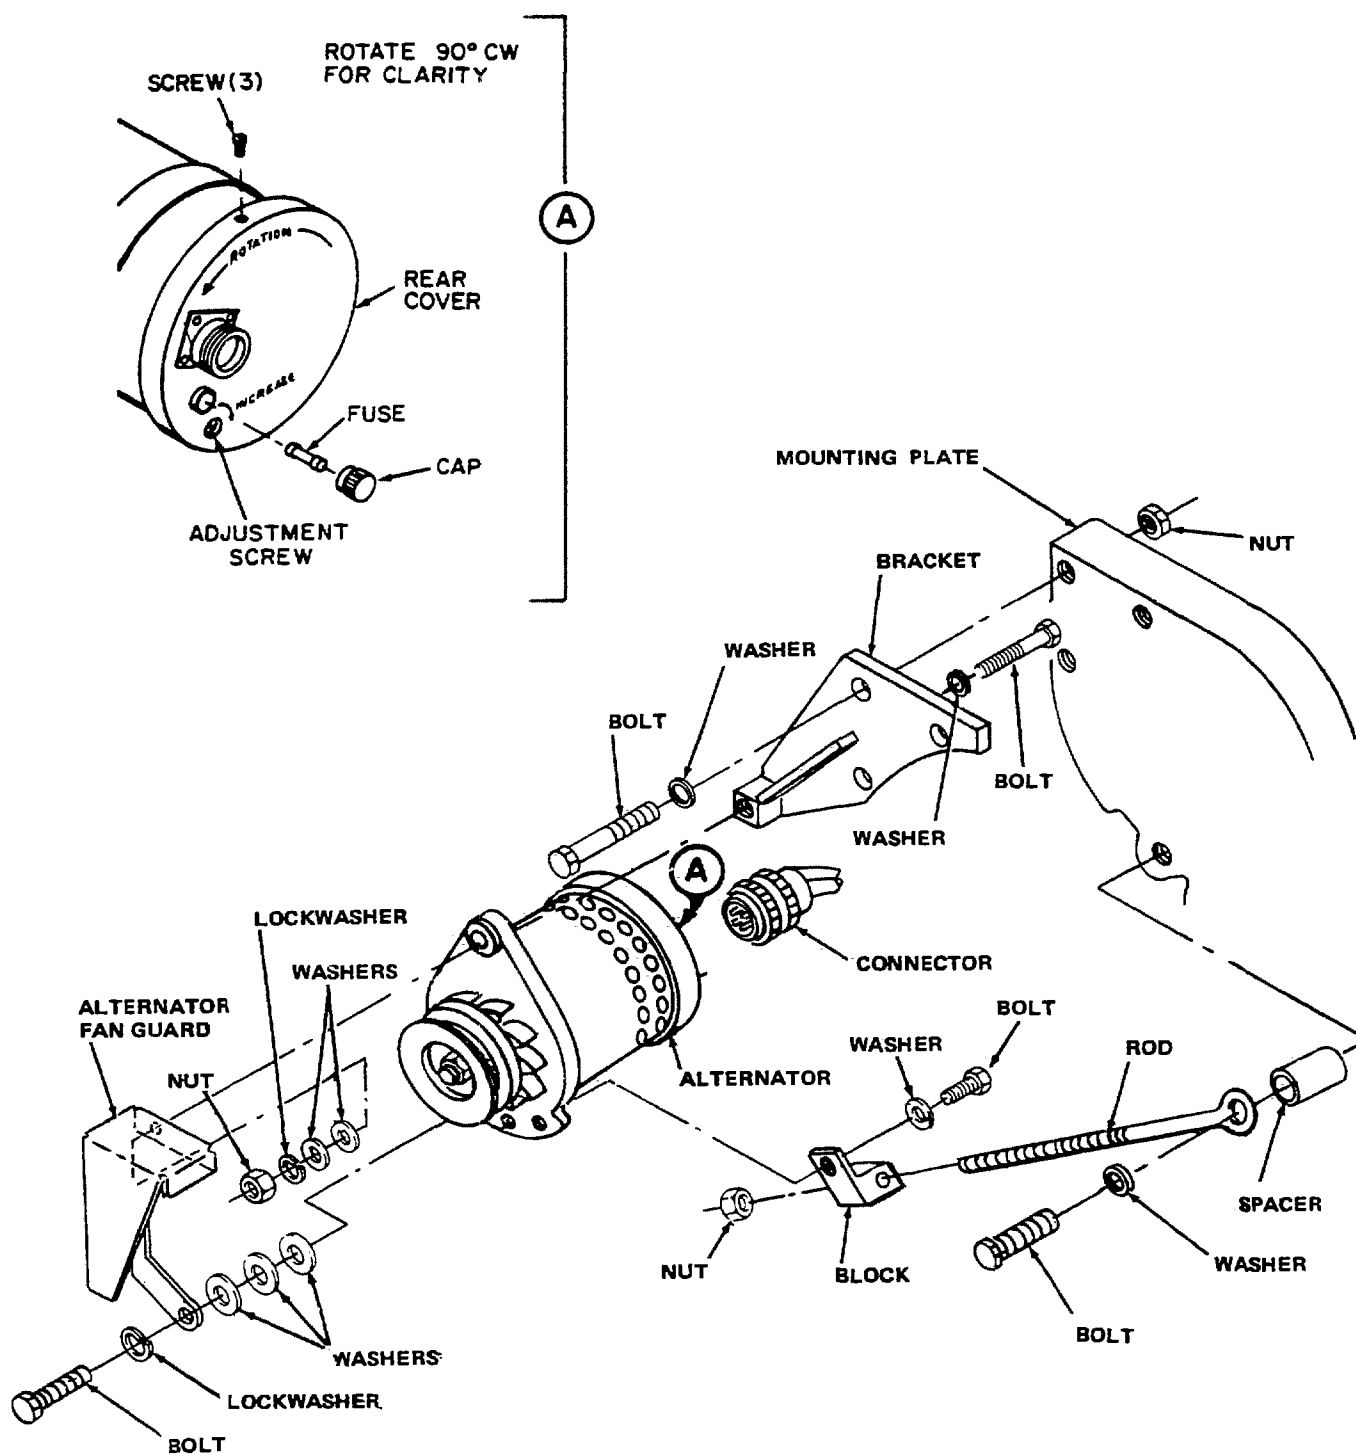

Figure 4-17. Battery Charging Alternator and Mounting Group, Removal and Installation
(a) Remove fuse from rear of alternator (refer to figure 4-17).
b. Removal. Remove alternator and mounting group as illustrated in figure 4-17, after removing alternator belt from alternator (refer to paragraph 4-30a).
(1) Clean alternator with a clean, dry cloth.
(3) Inspect for cracks, breaks, and defective threads. Replace defective parts.
d. Installation. Install alternator and mounting group as illustrated in figure 4-17, observing the following:
(1) Tighten plate mounting nuts to  $17 \pm 3$  foot pounds torque ( $23 \pm 4$  Newton-meters).
(2) Install alternator belt and adjust belt, refer to paragraph 4-30.